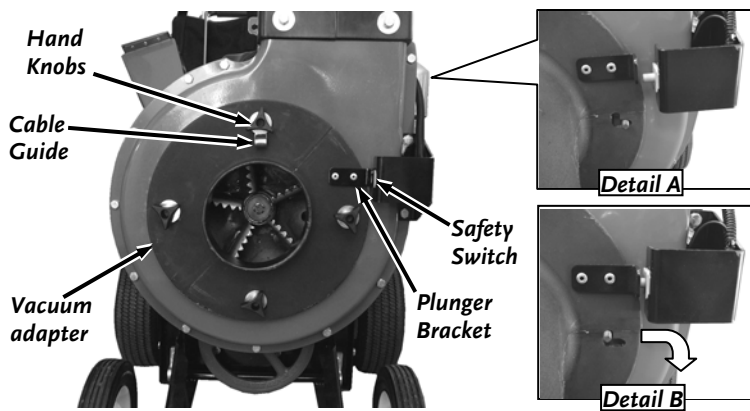

Figure 4
4. Place the Vacuum Adapter onto the front of the Housing (**Figure 4**) so the studs are located in the right hand side of the lower slots (**Detail A**). Slide the Adapter to the right and down so the Plunger Bracket on the Adapter pushes the Safety Switch in (**Detail B**).